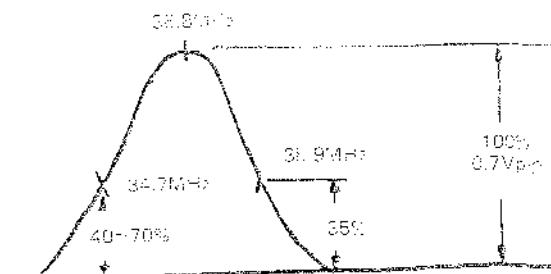

Fig. 19
1. Adjust the L12 and T101 to obtain a response curve in Fig. 19.